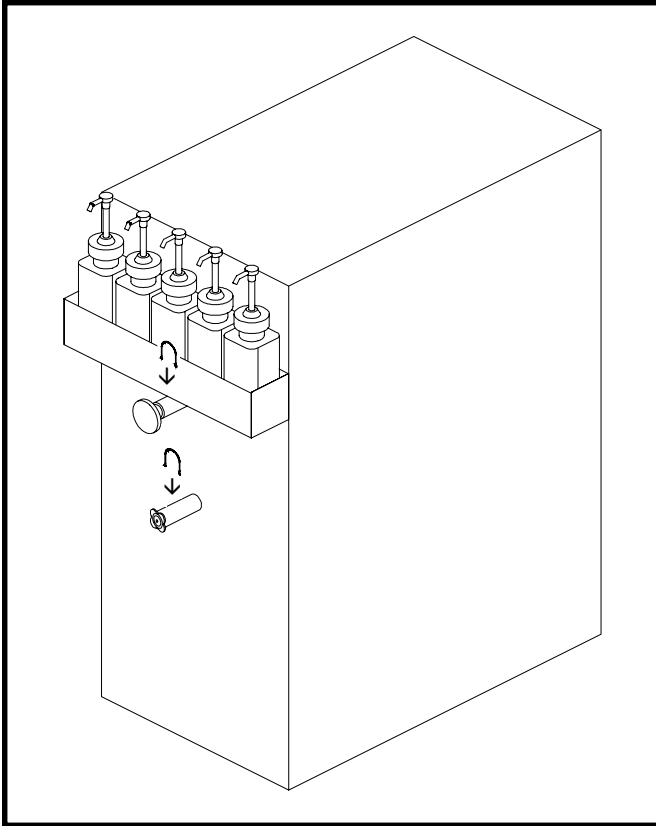

Figure 15
E. To remove the upper and lower spigot assemblies, remove the retaining clip and pull the spigot assemblies straight out of the product outlet (Fig.15).